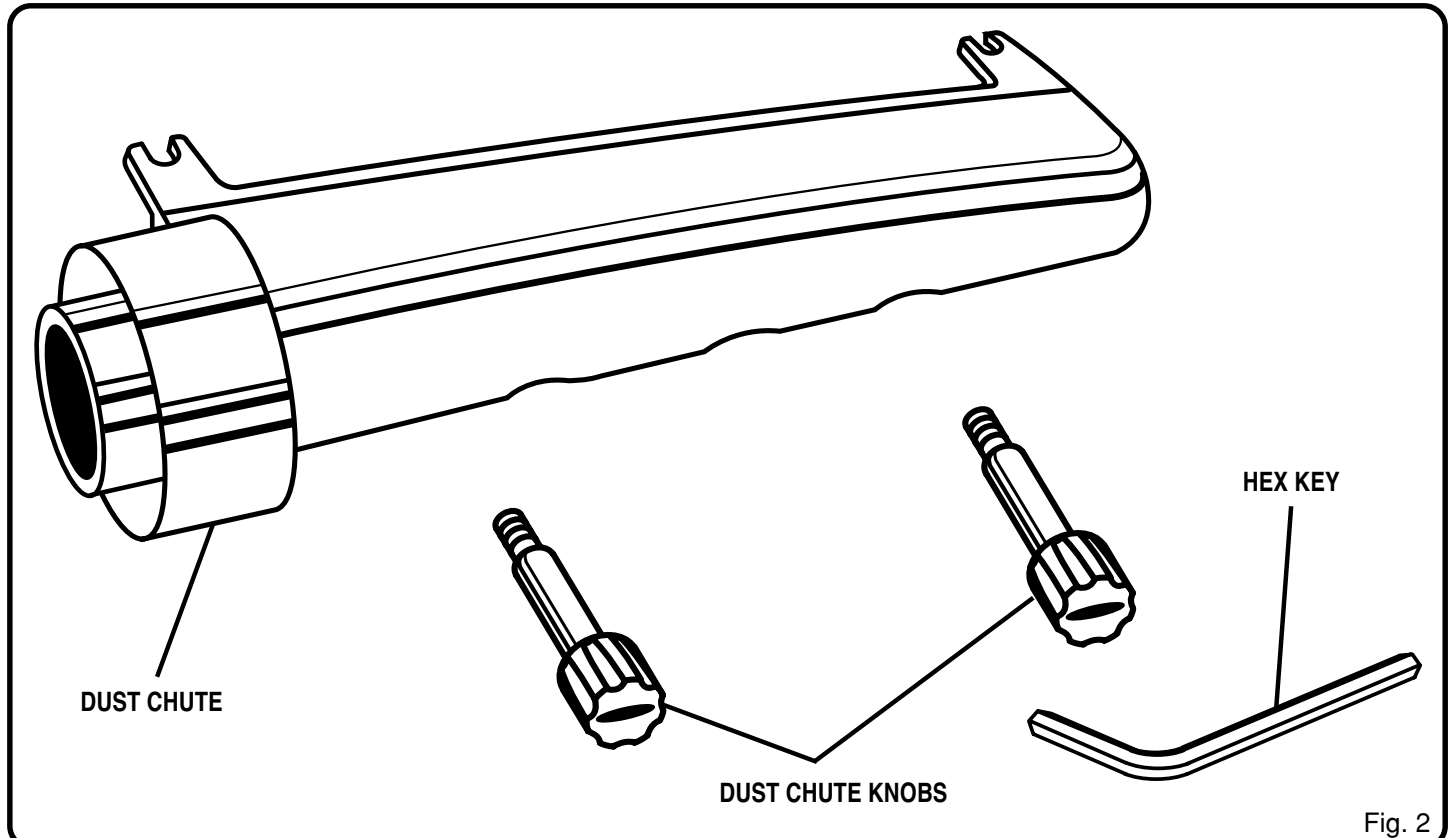

Fig. 2
- Separate and check with the list of loose parts. See *Figure 2*.